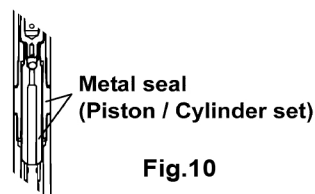

Fig.10
- 10) Wash each part and if damage and wear found, change to the new parts. Especially if the metal seal parts are damaged or wear out, grease will leak and discharge pressure cannot be increased, and consequently discharge volume will be decreased. In this case the piston and the cylinder must be changed to the new parts simultaneously. (Fig.10)